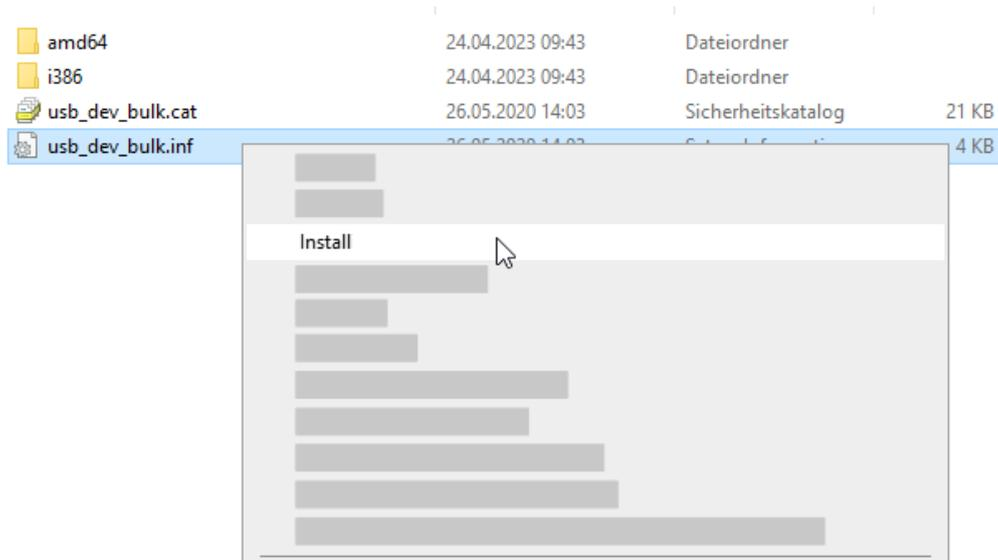

Figure 3: Installation via context menu
3. Right-click the file “**usb_dev_bulk.inf**” to open the context menu and click “**Install**” (Figure 3).